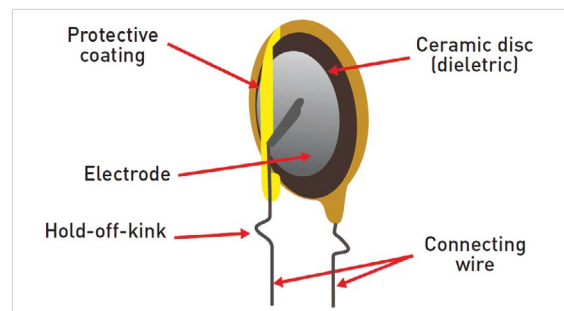
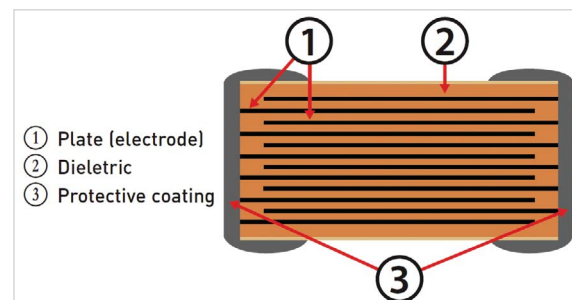

Figure 5: Basic Ceramic Capacitor Construction
Figure 6: Internal Ceramic Capacitor
The dielectric of a typical ceramic capacitor is a ceramic material and the electrodes are a silver alloy [see **Figure 5: Basic Ceramic Capacitor Construction**]. The capacitor is stacked alternating ceramic with silver electrodes in a number of layers until the nominal capacitance is achieved [see **Figure 6: Internal Ceramic Capacitor**]. There are two major drawbacks using ceramic capacitors. First, they tend to pick up mechanical vibrations like a microphone, turning them into unwanted electrical signals. These vibrations cause a squeezing or oscillation of the ceramic dielectric that produces a small voltage in the capacitor. This small voltage (in microvolts) can cause audio distortion, called microphonics. The second problem with ceramic capacitors is poor audio frequency response. Ceramic capacitors have a poor series resistance ESR and a low Insulation Resistance (IR), which impose additional resistance to the tuned circuit, resulting in poor audio response.